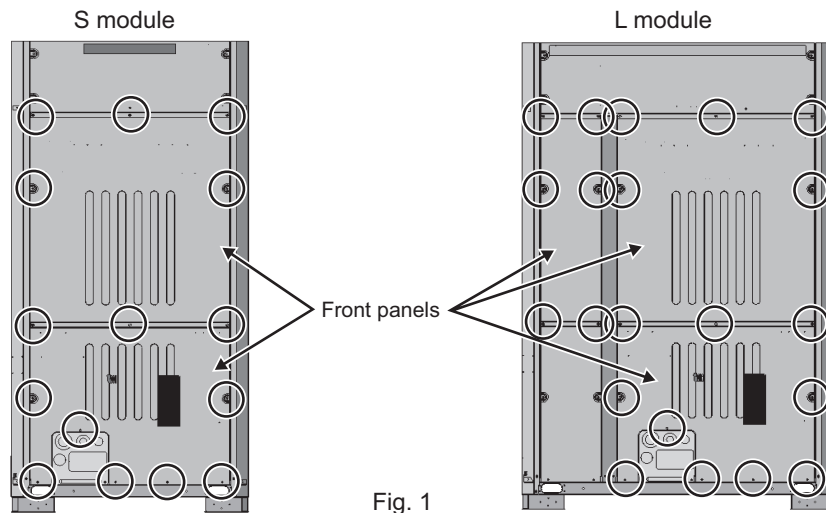

Fig. 1
(1) Remove the front panels of the casing. (15 screws on S module, 21 screws on L module: Fig. 1)